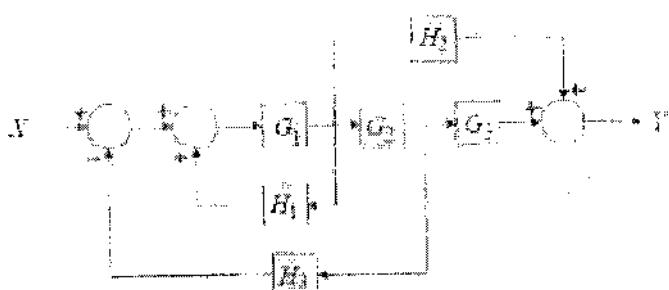

Figure Q.7 (b)
b) Figure Q. 7 (b) shows a block diagram. Simplify and find the relation between Y/X. 8